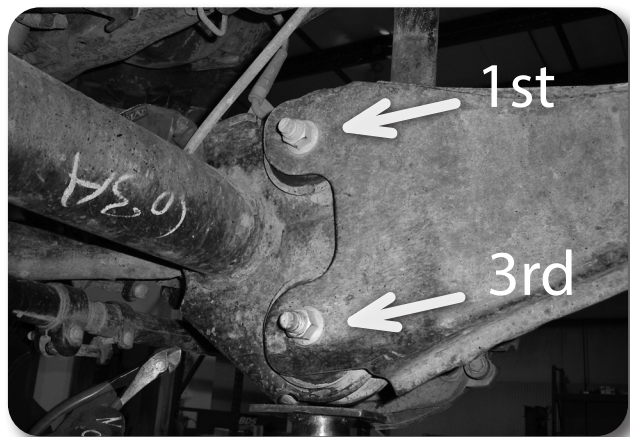

Figure 10
24. Locate and loosen the 4 radius arm mounting bolts at the axle. Figure 10 Once again make sure that the axle is well supported by a jack.